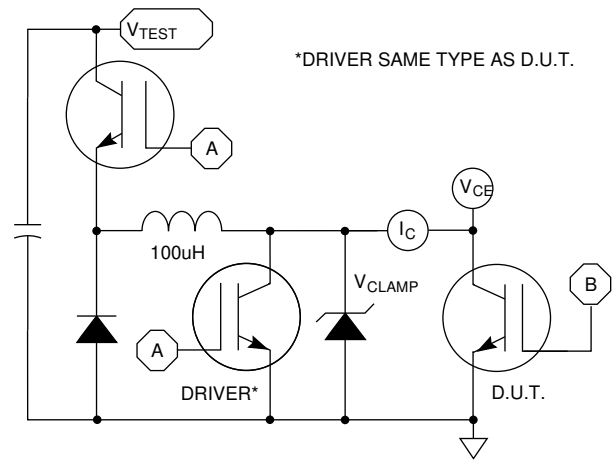

Figure 24, EON1 Test Circuit
- ① Repetitive Rating: Pulse width limited by maximum junction temperature.
- ② For Combi devices,  $I_{ces}$  includes both IGBT and diode leakages
- ③ See MIL-STD-750 Method 3471.
- ④  $E_{on1}$  is the clamped inductive turn-on-energy of the IGBT only, without the effect of a commutating diode reverse recovery current adding to the IGBT turn-on loss. (See Figure 24.)